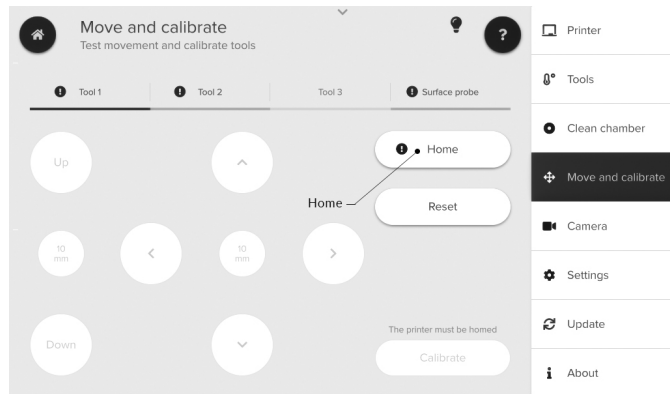

Figure 5: Homing the system.
3. Go to the Move and Calibrate tab on the right side of the screen and home the system (Figure 5).